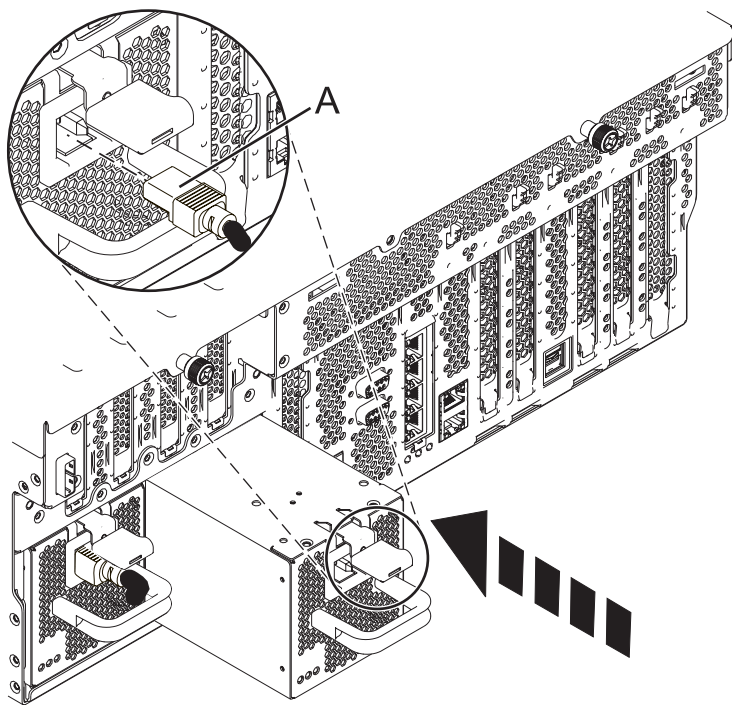

Figure 6. Replacing a power supply
4. Push the power supply into place until the locking latch snaps into place as shown in Figure 6 on page 9.